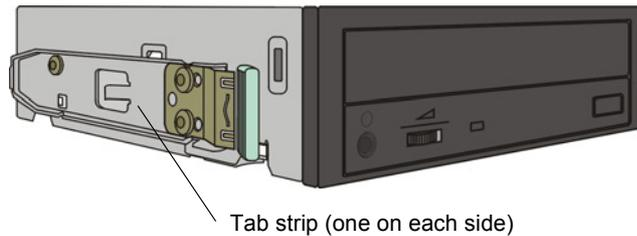

Figure 40: Tab strips on the DVD-RW drive
1. Install the tab strips to the new DVD-RW drive that you removed from the old DVD-RW drive. See Figure 40.